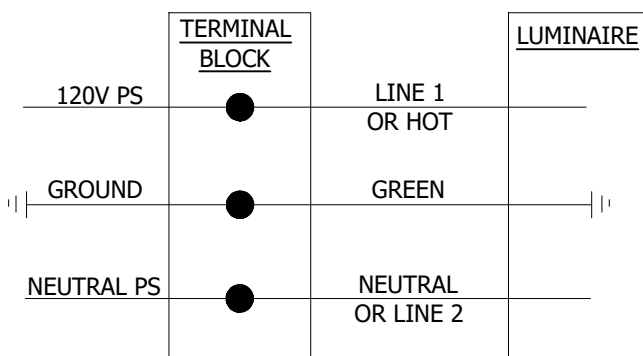

FIGURE 7
- ② ATTACH SERVICE LEADS TO TERMINAL BLOCK AS SHOWN ON THE WIRING SCHEMATIC. SEE FIGURE 7.